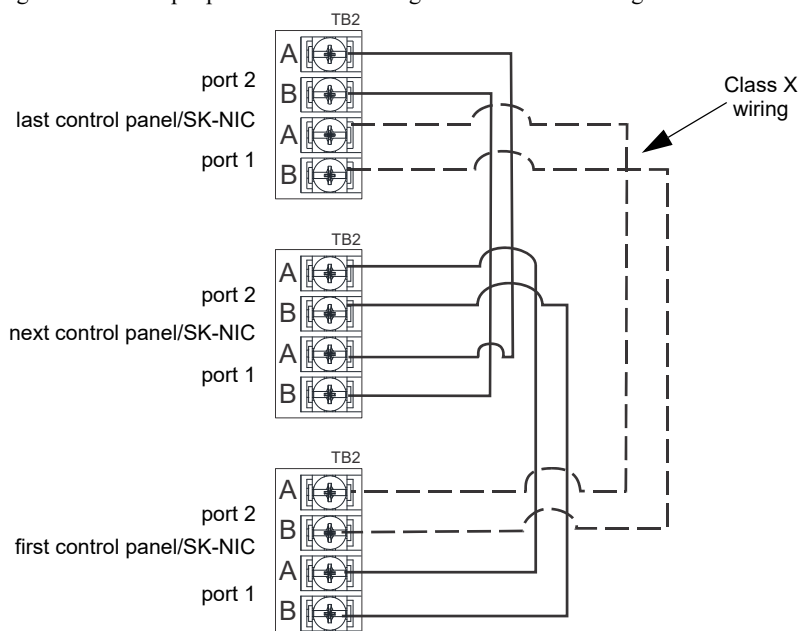

Figure 5.6 Twisted Pair Wiring Configuration
5. Based on the type of data medium chosen, run the twisted pair wiring/fiber-optic cable to the next SK-NIC using a Class B or Class X wiring method. A combination of both medium types can be used. See Figure 5.6 through Figure 5.9 for SK-NIC wiring examples.
Unshielded twisted-pair wiring between multiple panels is shown in Figure 5.6. Class X wiring is shown with a dotted line.